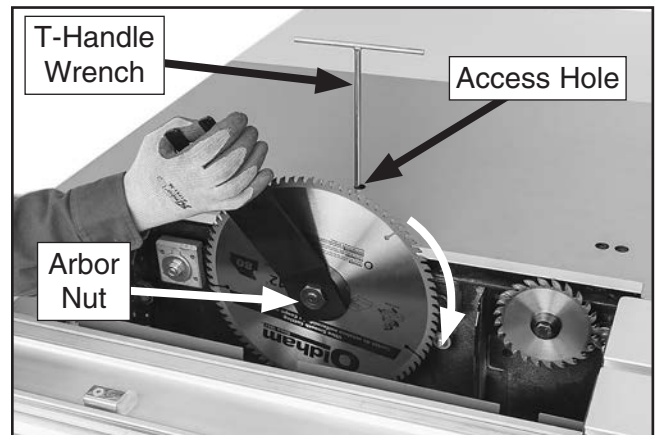

Figure 31. Loosening main blade arbor bolt.
- Insert T-handle wrench into access hole shown in **Figure 31**.